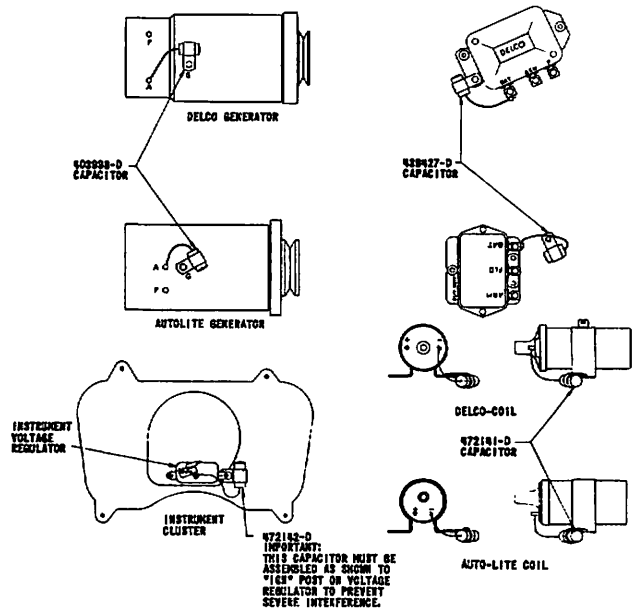

Figure 4
**IMPORTANT**—Care in performing these operations will result in satisfactory elimination of ignition noise. Be sure that all condenser cases make good ground connection and that all connections are tight. See figures 4 and 5.